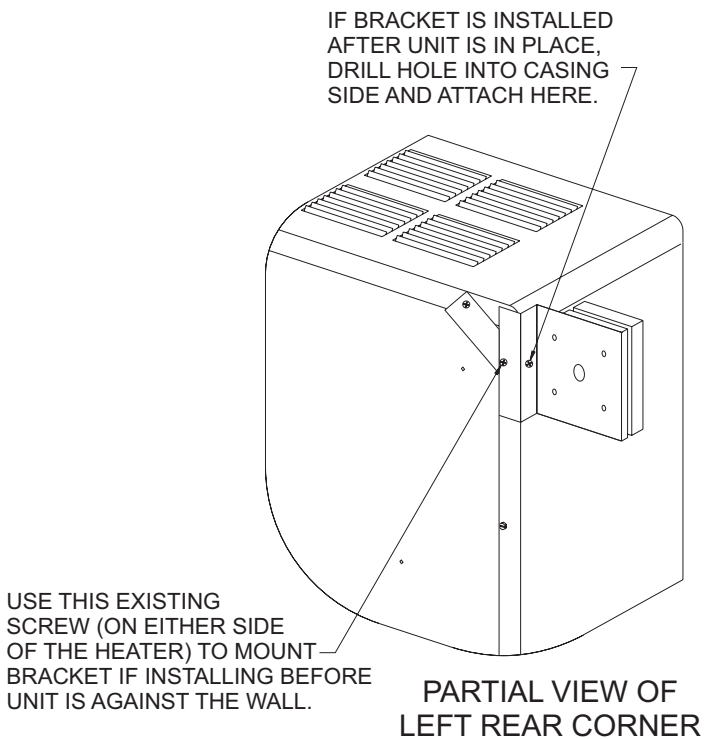

Figure 7
4. If installing the thermostat bracket after the unit has been installed, drill a hole in the side of the unit as shown in Figure 7. and attach the bracket with a screw (not provided). If installing the thermostat bracket before the unit is installed, use the existing screw on the back of the unit to attach the bracket to the unit as shown in Figure 7.